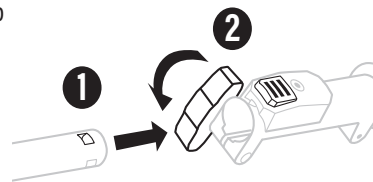

Fig. 3B
3. Align the installation hole on the attachment shaft with the arrow on the powerhead shaft and push the attachment shaft into the powerhead shaft until you hear a “click” sound, which means that the attachment shaft is mounted into place (Fig. 3B, 1).
5. Tighten the wing knob firmly. (Fig. 3B, 2)